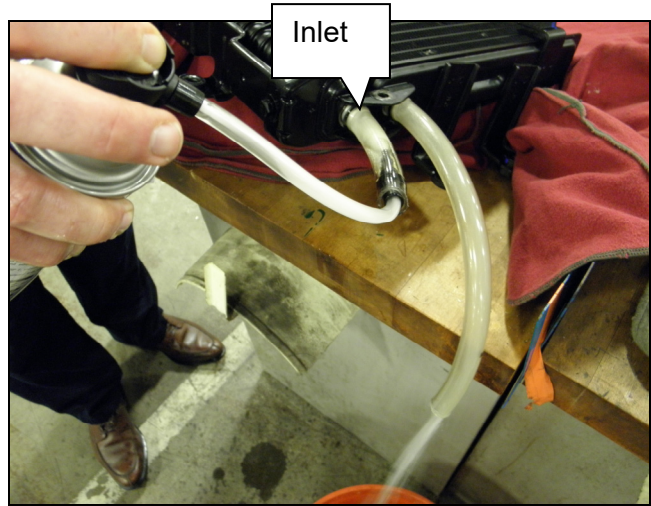

Figure 7
5. Insert the “extension adapter hose” from a can of Transmission Cooler Cleaner (Nissan P/N 999MP-AM006P) into the auxiliary fluid cooler inlet (Figure 7).